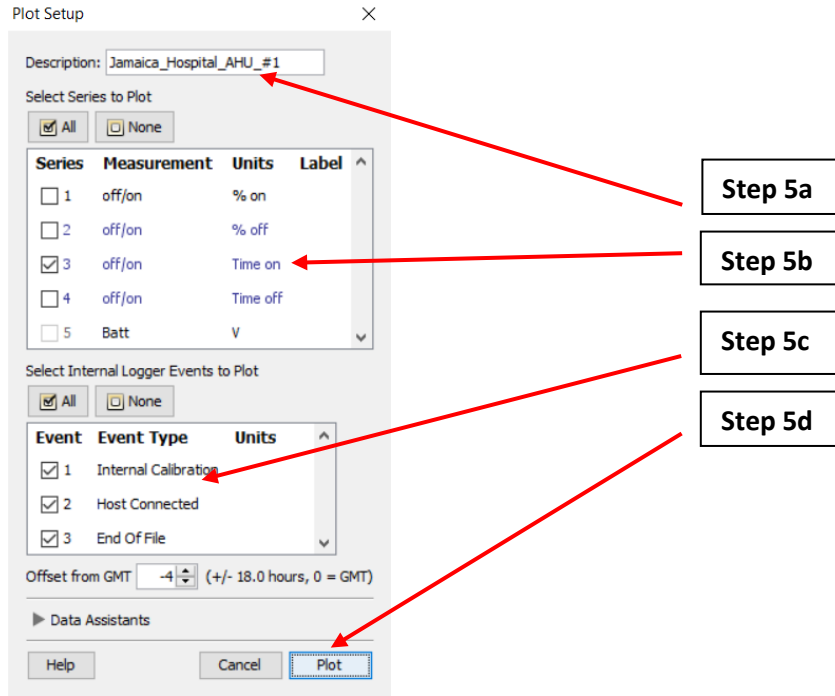

Figure A.1.14: “Plot Setup” pop-up window with the corresponding steps.
5. The Plot Setup window open as shown in Figure A.1.14. To set up the data series: